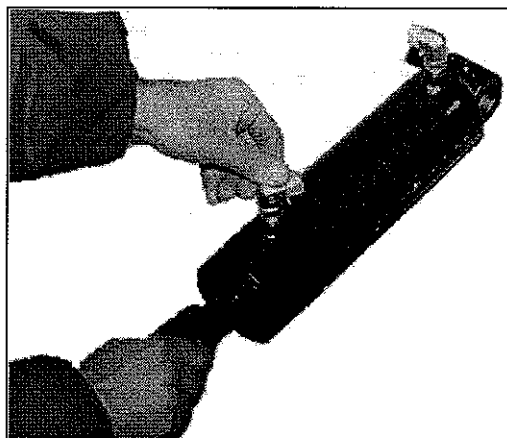

figure 14
- a. Attach fittings to the cylinder with the elbow fitting on the rod-end port and the orifice fitting on the barrel-end port (figure 14).